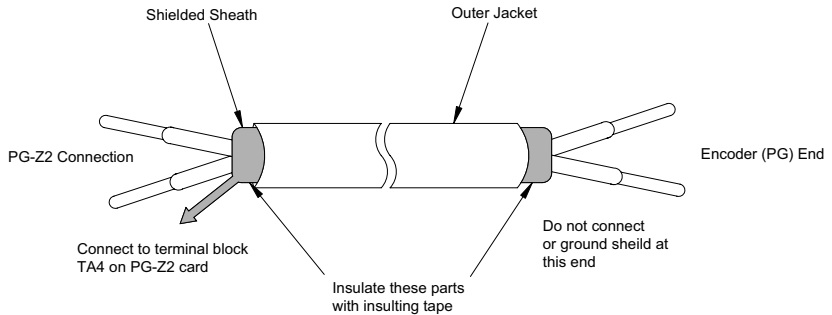

Fig. 5 Shielded wire termination
- A separate metallic grounded conduit with the PG wiring ONLY is preferred to prevent the introduction of noise on encoder (PG) signals.
- Use a shielded wire to connect the encoder (PG). Connect the wires as shown in *Fig. 5* to prevent noise interference. The wire distance must be 164 ft. (50 m) or less.